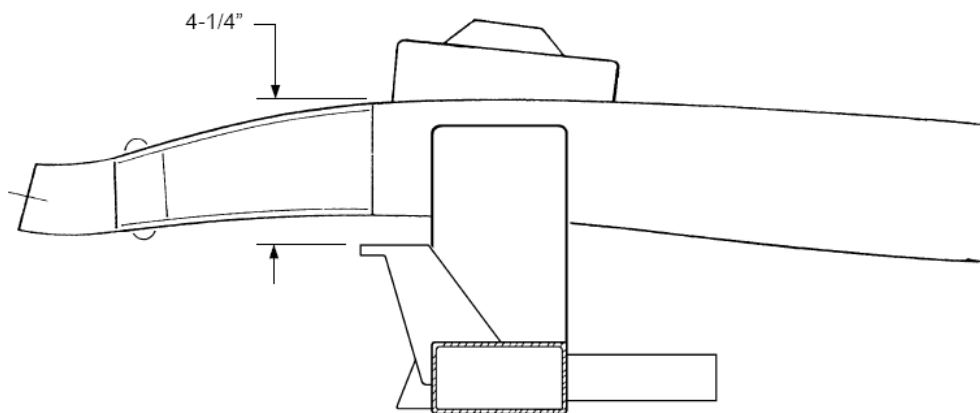

Figure 5- Radiator Support Install
8. The radiator support is the last item. Center the support on the front of the crossmember and clamp or tack in place. Measure up from the top of the support to the top of the frame directly above the radiator perch, using a straight edge across the top of the frame rails. That dimension should measure 4-1/4", as shown in **Figure 5**. If it is too high and the dimension is less than 4-1/4", trim the base of the radiator support to bring it down to that dimension. Also check the clearance to the steering rack if any trimming is done to the radiator support. If the support is low, the radiator cradle assembly can be shimmed up to its correct position when it is bolted to the radiator support. ***Please note that this model car does not accept the power rack and pinion rack without serious modifications to the factory Ford geometry design, due to the much larger pinion housing and hydraulic lines.*** They interfere with the stock radiator cradle. Power steering is absolutely not recommended for this car even if it would fit. The light front end weight, compared to a Pinto, coupled with the extra ease of power steering, will cause you to lose the feel of the car on the highway.